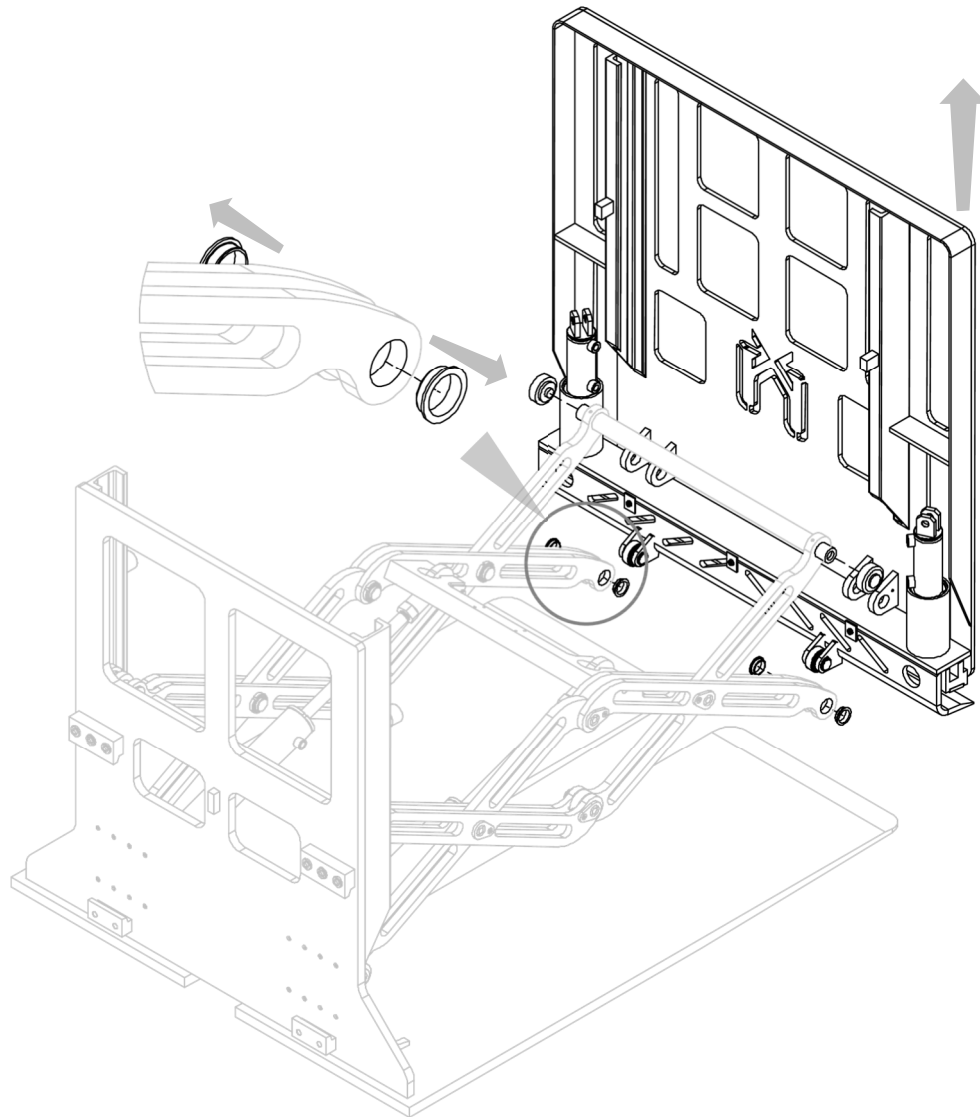

Figure 19
3. Remove the front bulkhead (with its blade holder structure). At this point, it can be removed from above, since it is only held on the equipment by the bearings of the pair of arms indicated in *Figure 19*.